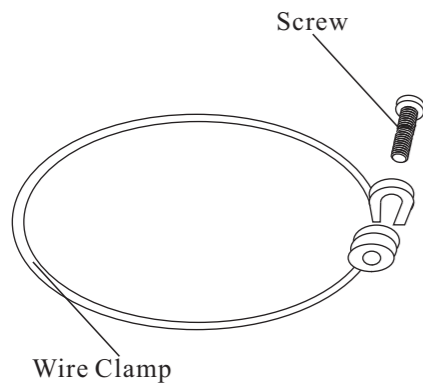

Figure 4 Loosen the bolt to remove the face ring assembly from the light encasing.
3. The junction box or the low voltage transformer is located at least 8 inches (203mm) above water level and at least 48 inches (1912mm) from the edge of the pool, see Figure 4.
5. The niche must be properly installed so the pilot screw hole is at the 6 o'clock position and that the top edge of the underwater light's lens is at least 18 inches (457mm) below the surface of the water in the pool; see Figure 4.